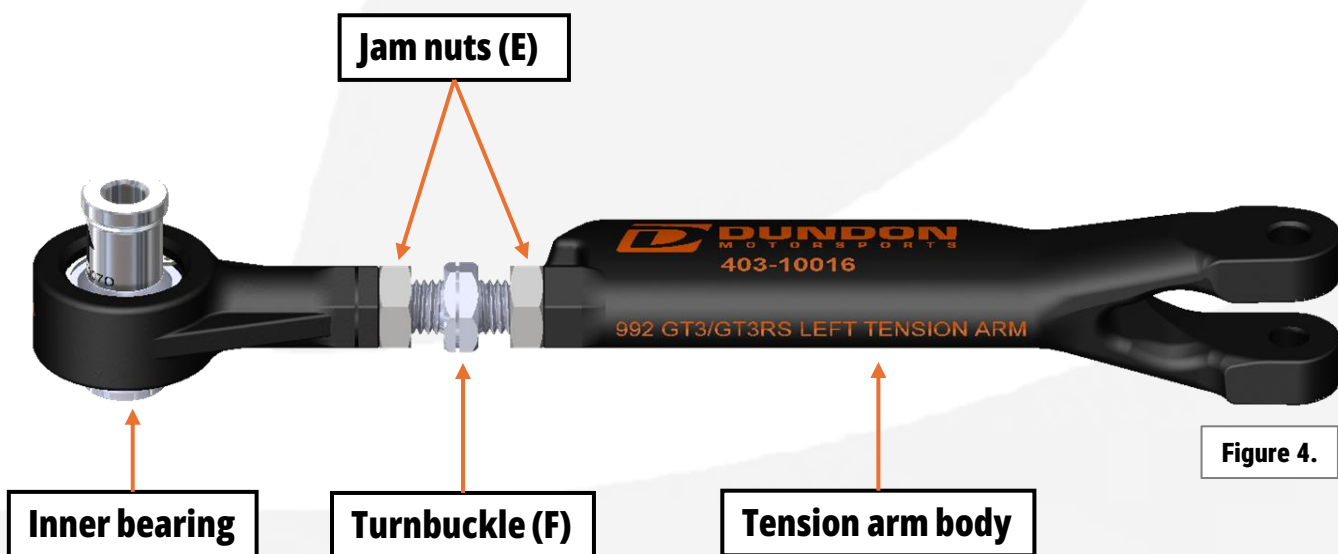

Figure 4.
1. Loosen Jam nuts (E – Figure 4.).
2. Turn center hex on turnbuckle (F – Figure 4.) to lengthen or shorten the tension arm.